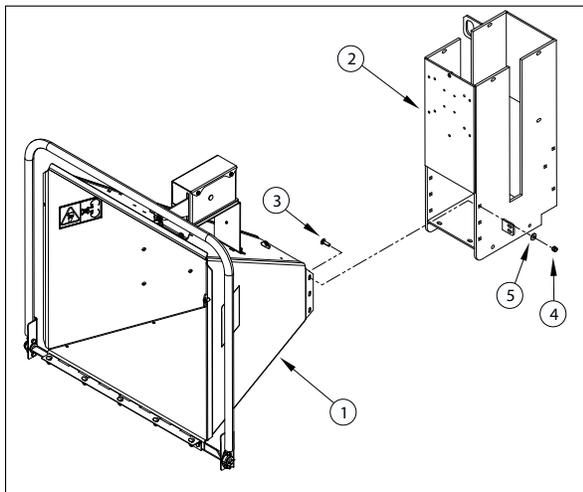

Figure 2.5, Attaching chipper chute
1. Mount the chipper chute (1) to the chipper housing (2) using eight 3/8 x 1" bolts (3), washers (5) and locknuts (4). Use three bolts on each side and two on the bottom (Figure 2.5).